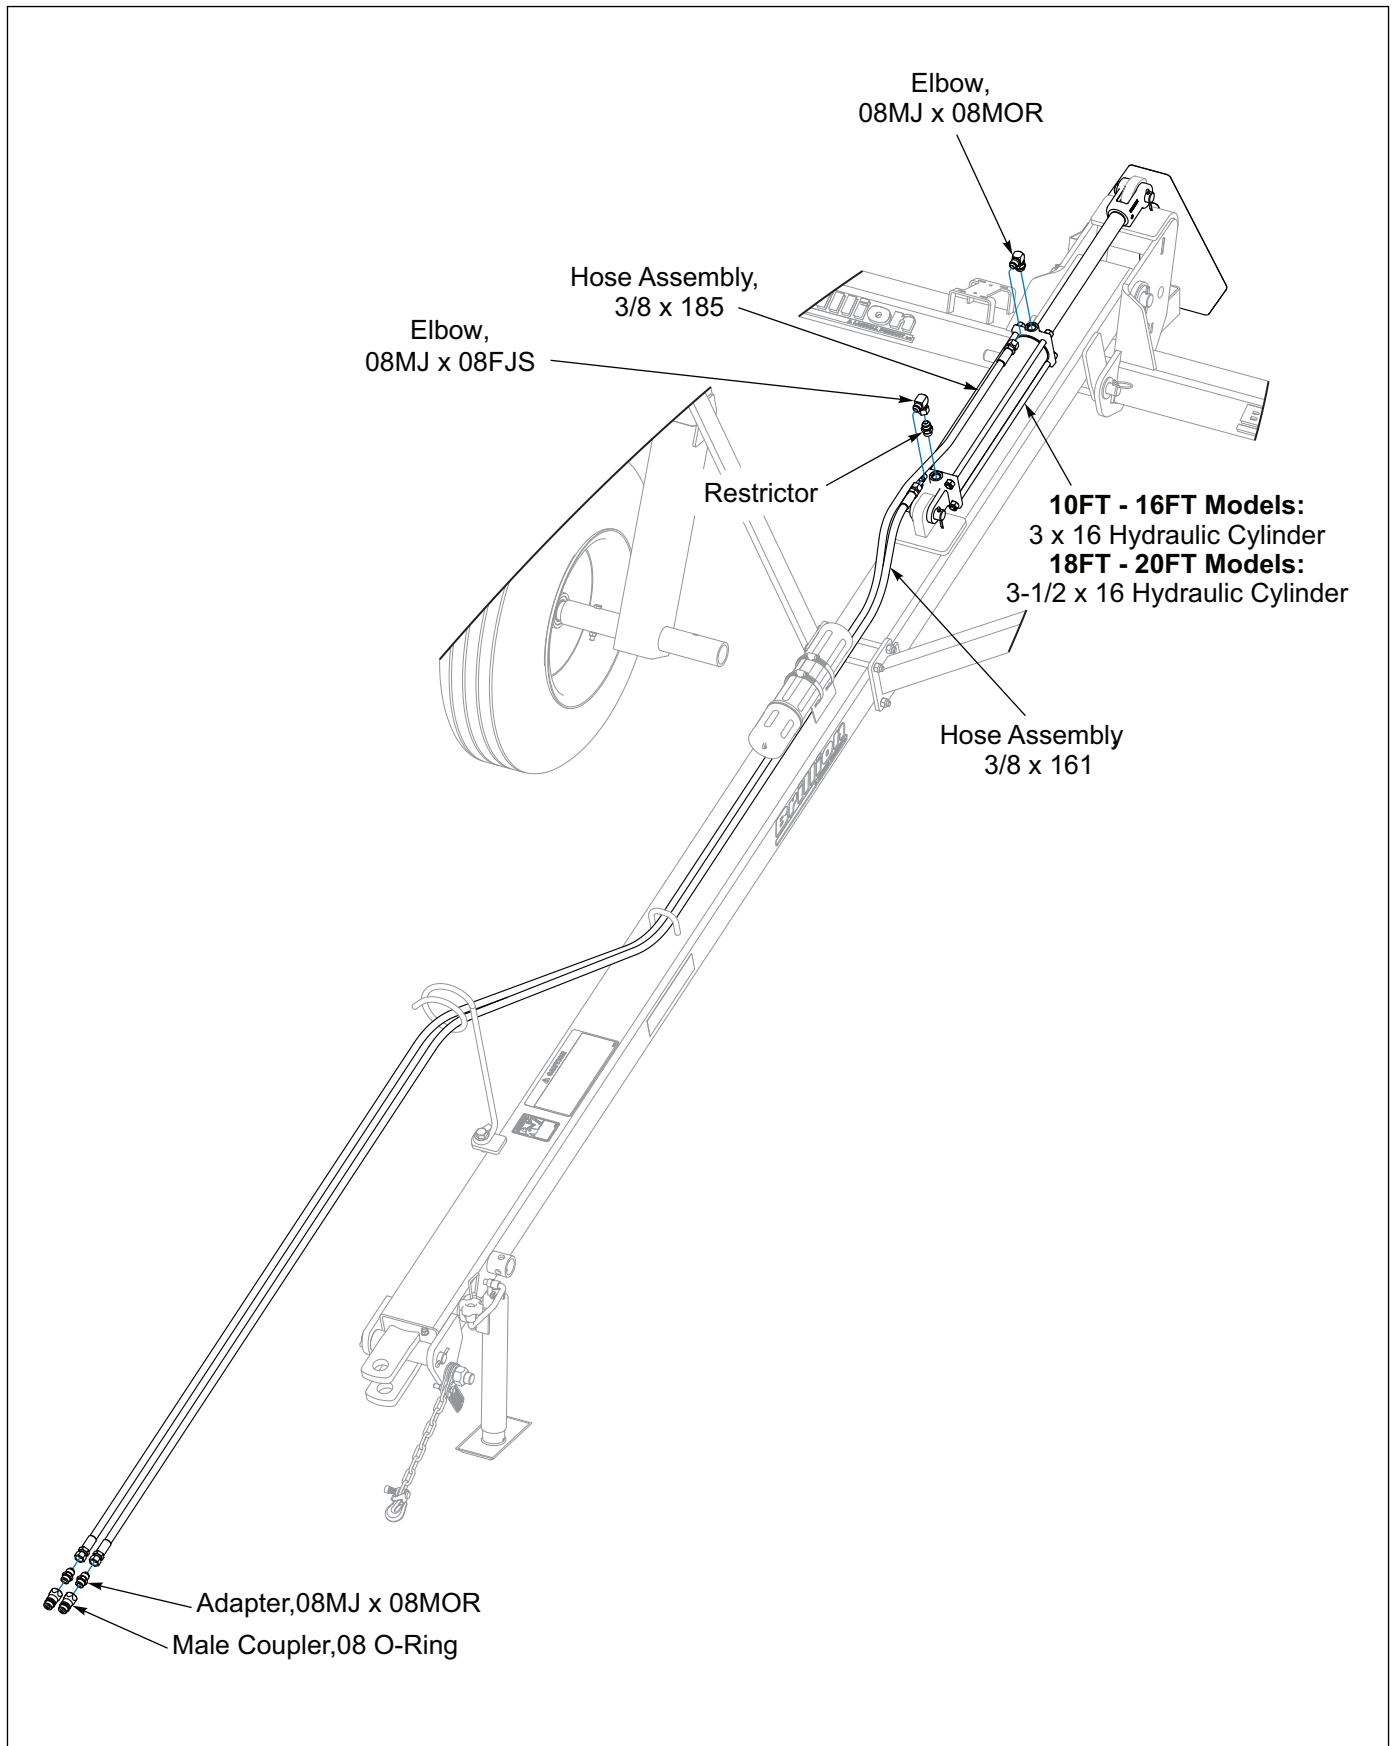

Figure 2-10: Hydraulic System Installation
1. Install Male O-Ring Elbow 08MJ x 08MOR into cylinder rod end port and Restrictor into the cylinder base port. Install Female Swivel Elbow onto Restrictor. **See Figure 2-10.**